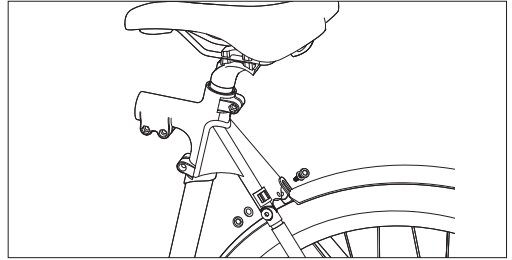

Figure 6-1
- After aligning the fender with the screw hole, retighten the mounting screws to affix it onto the seat tube joint, as shown in **Figure 6-1**.